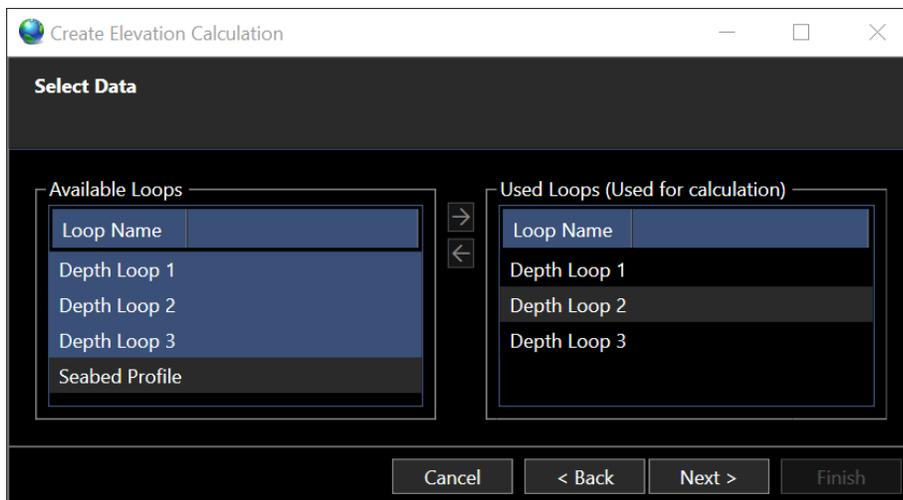

FIGURE 87 CREATE ELEVATION CALCULATION – SELECT DATA PAGE (DEPTH LOOPS)
5. Click Next to open the Select Data page. Select the depth loops to apply in the calculation from Available Loops panel and click the → button to add them to the Used Loops panel, to remove a depth loop from Used Loops panel, select it and click the ← button, see Figure 87.